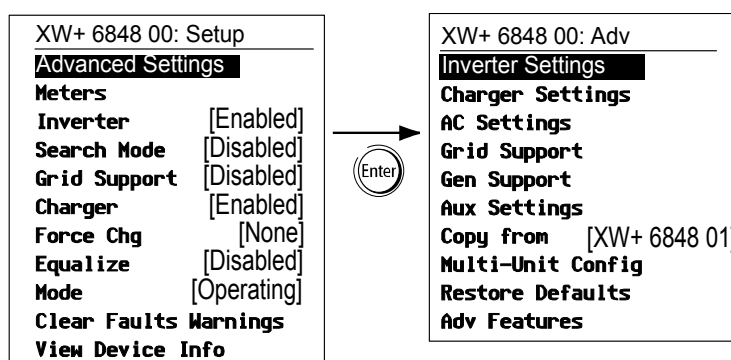

Figure 3-2 Selecting Advanced Settings
- From the Setup menu, with **Basic Settings** or **Advanced Settings** highlighted, press **Enter**. See Figure 3-2.